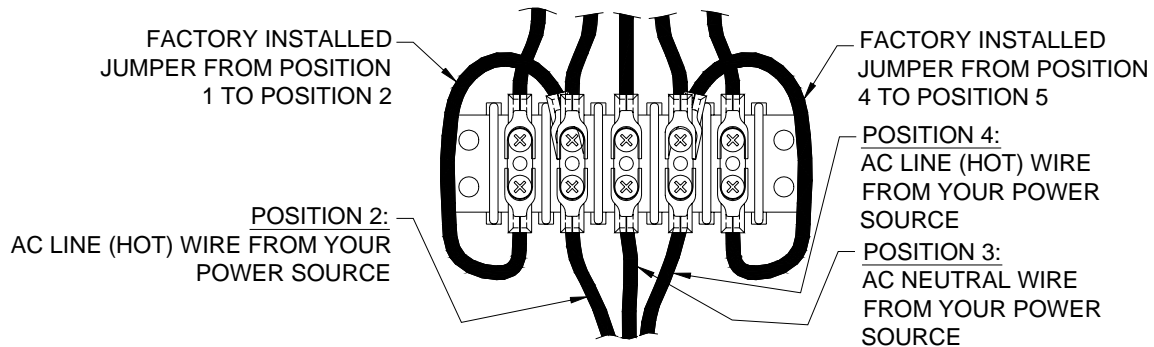

Figure 7 240 VAC Connections
3. If you are going to connect the scoreboard to a 240 VAC supply, connect one AC line wire to position 2, AC neutral wire to position 3, and the other AC line wire to position 4 of terminal strip T3 on the junction chassis according to figure 7.